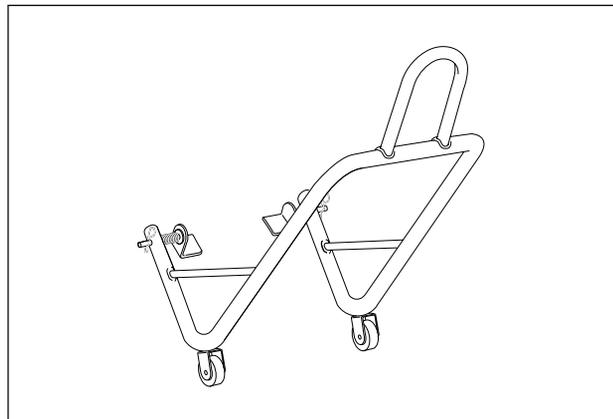

Figure 1-36. Rear Wheel Stand (Part No. B-41174)
2. See Figure 1-36. Raise rear wheel off ground with REAR WHEEL SUPPORT STAND (Part No. B-41174).